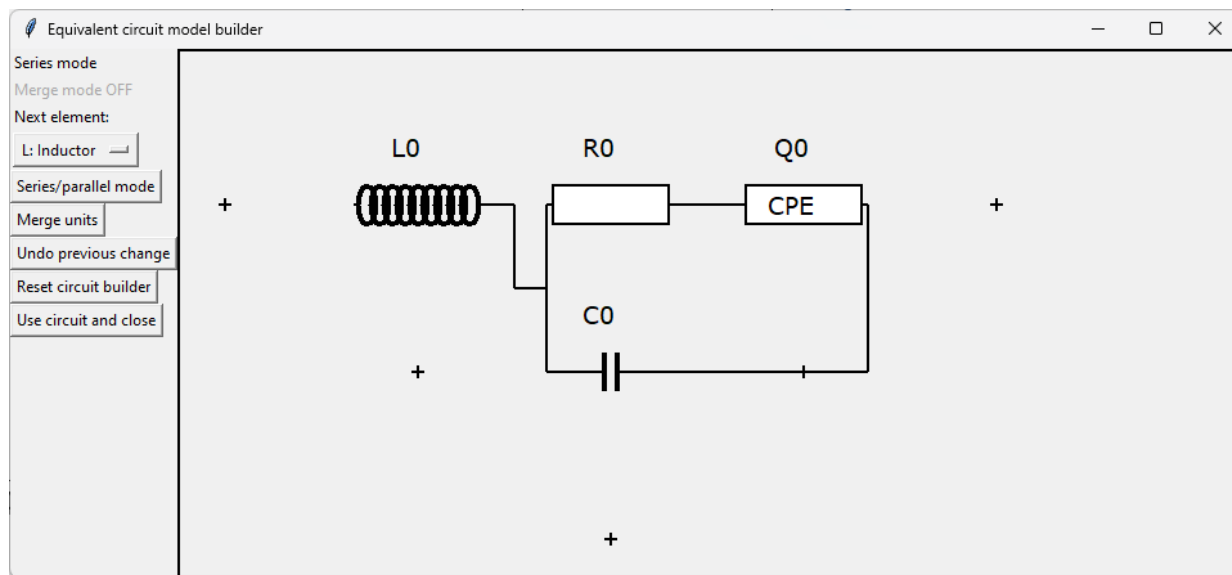

Figure 17: Chosen circuit for $\text{RbOH} \cdot x\text{H}_2\text{O}$.
6. Now it is time to define an equivalent circuit model. Because the phase angle goes up at high frequencies, an inductor should be included. Other than that, the Randles circuit (with a CPE instead of a Warburg element for the low-frequency region) will suffice. This circuit can be drawn via **Circuit>Draw circuit**; see Figure 17. With **Use circuit and close**, the circuit is set.